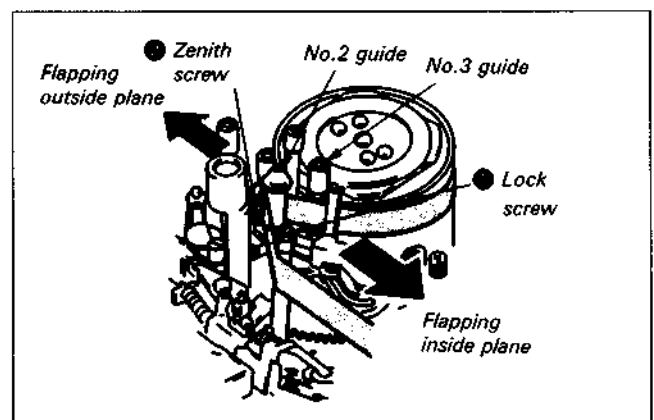

Fig. 7-66.
- 1) Playback the tracking alignment tape (WR5-1C) and loosen No.2 guide lock screw ●, and rotate No.2 and No.3 guides counterclockwise to free tape running on the entrance side. (See Fig. 7-66.)
Adjust the No.2 guide zenith screw  by turning it counterclockwise 90° at a time. (See Fig. 7-66.)
- 7) Tighten No.2 lock screw . (See Fig. 7-66.)